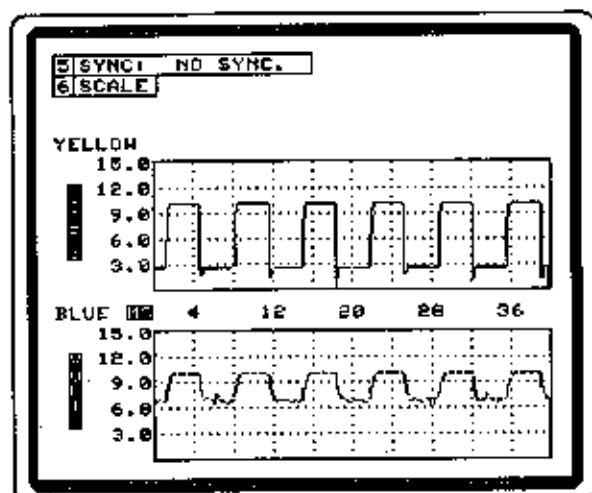

Figure 71
5. Two patterns will appear on screen when the yellow and blue clips are connected to different circuits in which the voltage is changing (see Figure 71).